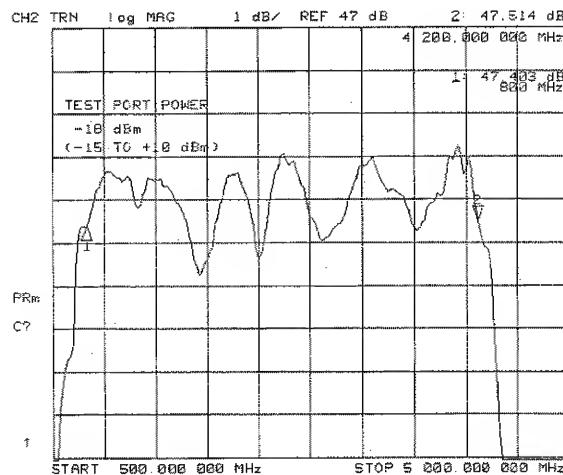

Figure 4.3.8.1
- 4.3.8.1 The Model 10S1G4A's typical Gain Response is shown in **Figure 4.3.8.1**. The actual gain may vary considerably from that shown in Figure 4.3.8.1, but it should be ≥ 40 dB.